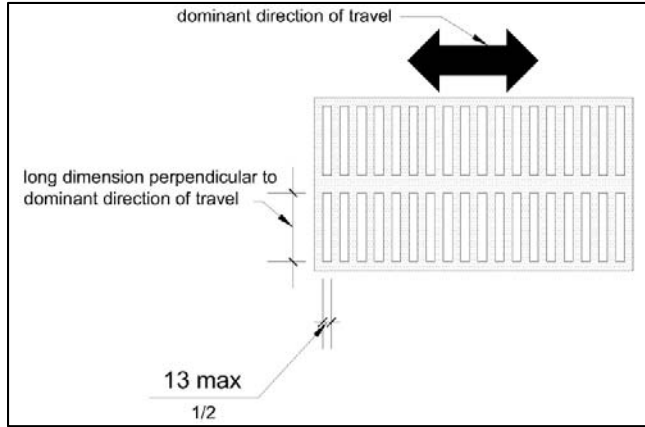

Figure 22 - Openings in Grates and Joints
- Horizontal openings in gratings and joints do not permit passage of a sphere more than 0.5 in. diameter (see **Figure 22**)
- Elongated openings in grates and joints are placed so that the long dimension is perpendicular to the dominant direction of travel (see **Figure 22**)